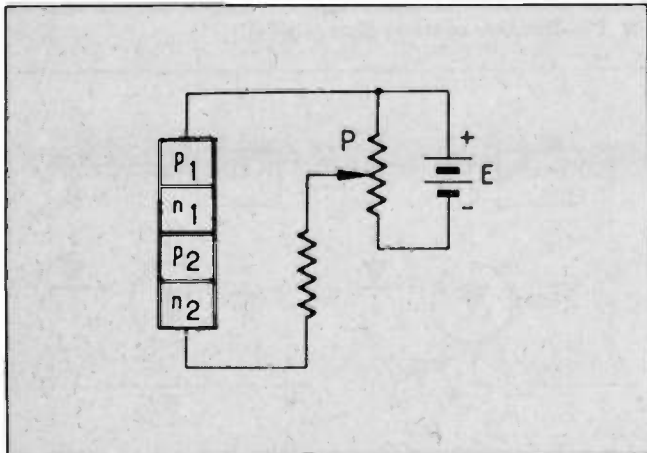

Fig. 18—Sketch showing the arrangement of the N and P regions in four-layer diode.
■ The 4-layer diode is a 2-terminal semiconductor device comprised of three junctions between regions P1N1, N1P2 and P2N2. If a voltage of the polarity shown in Fig. 18 is applied to its terminals, junctions P1N1 and P2N2 are forward-connected to conduct. The central junction, N1P2, however, is reverse-connected and it blocks current. Hence, the device is nonconducting.